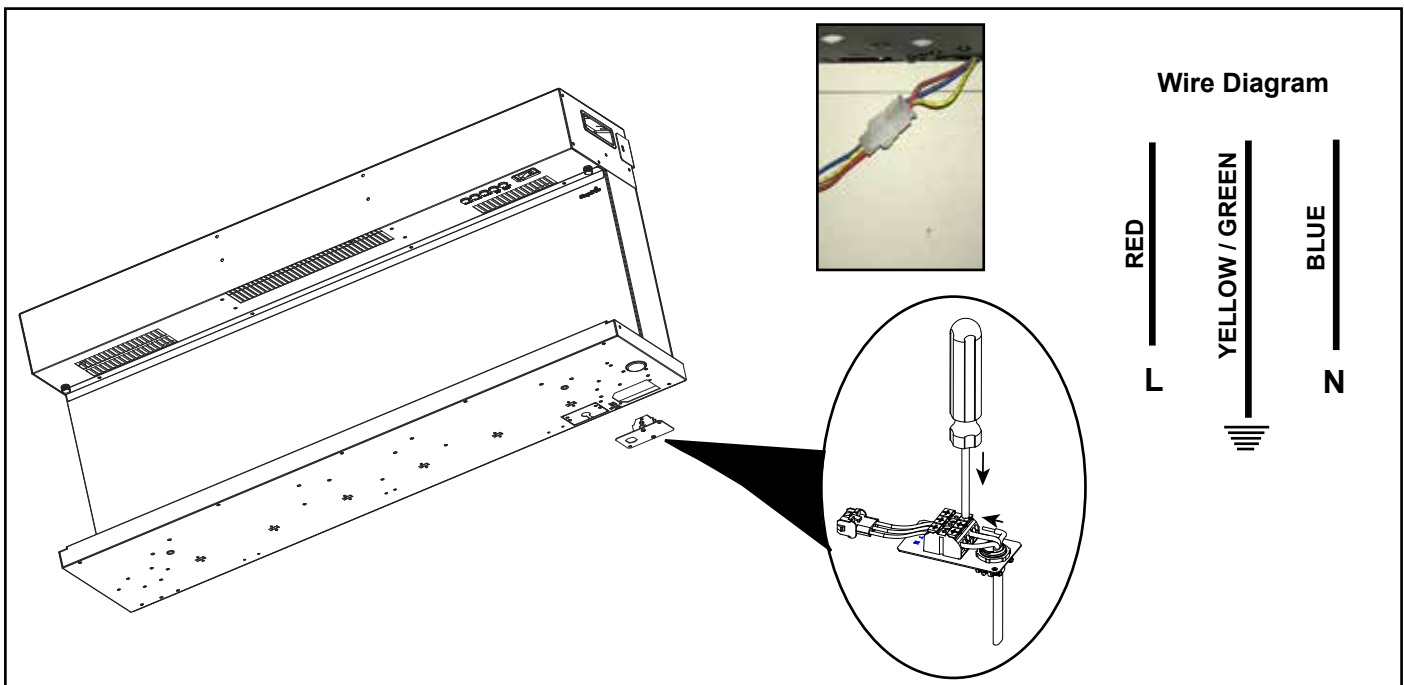

Figure 4.10 Hard Wire Installation
3. Connect the three conductor wire connector to the connector on the hard-wire terminal block supplied with the appliance. See Figure 4.10.
5. Terminate type NM-B wire to the terminal block, ensure connections are secure, and tighten the strain relief. To load wire conductors into the junction block, depress the spring-loaded terminals on the junction block by hand or use a screwdriver. See Figure 4.10.